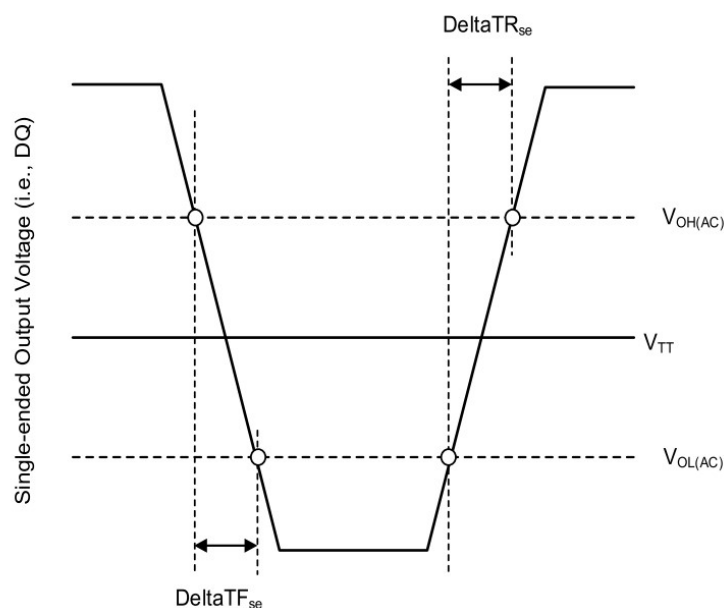

Figure 38 - Single-ended Output Slew Rate Definition
With the reference load for timing measurements, output slew rate for falling and rising edges is defined and measured between VOL(AC) and VOH(AC) for single-ended signals as shown in Table 35 and Figure 38.